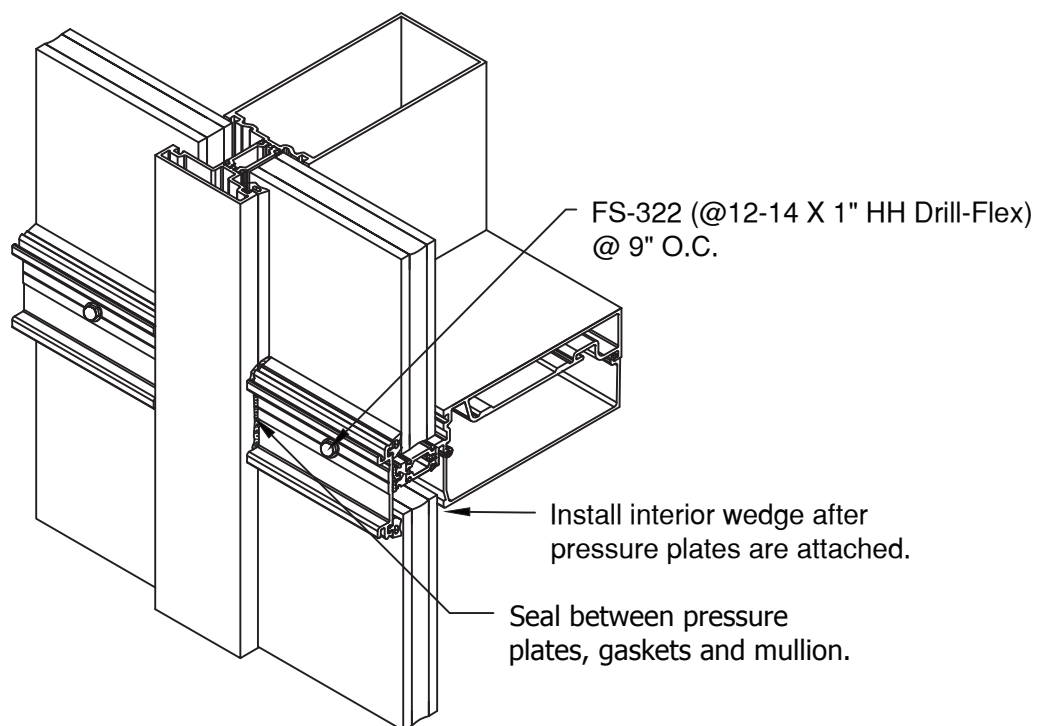

Figure 24
- 3.22 Seal ends of pressure plate to sides of vertical mullions and seal ends of horizontal gaskets to vertical gaskets. (**SEE FIGURE 24**)